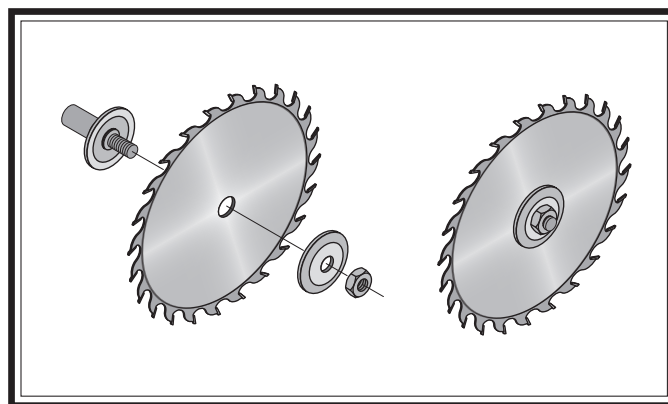

Figure 51. Example of correct blade direction and blade components installation order.
5. Slide blade over arbor with teeth facing front of saw (see **Figure 51**).